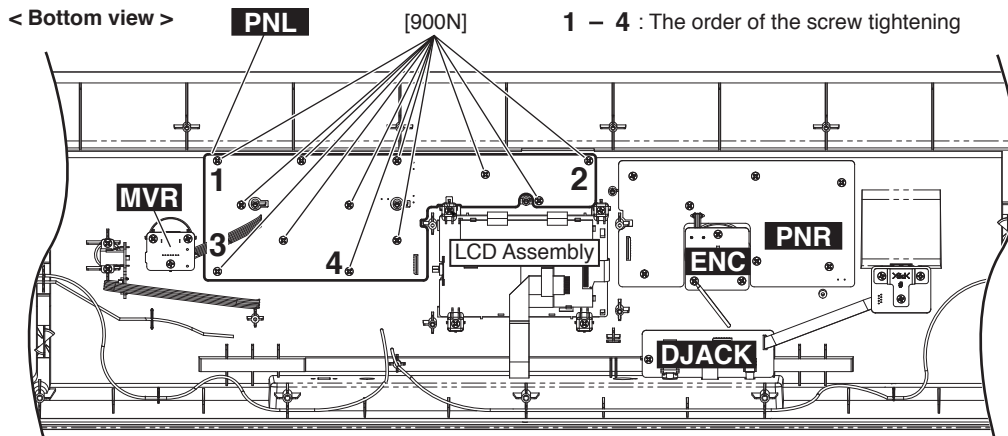

Fig.5
- 4-4 Remove the twelve (12) screws marked [900N]. The PNL circuit board can then be removed. (Fig.5)
* *When the PNL circuit board is assembled, tighten the screws marked [900N] in the order of 1, 2, 3, 4 and the remaining screws. (Fig.5)*